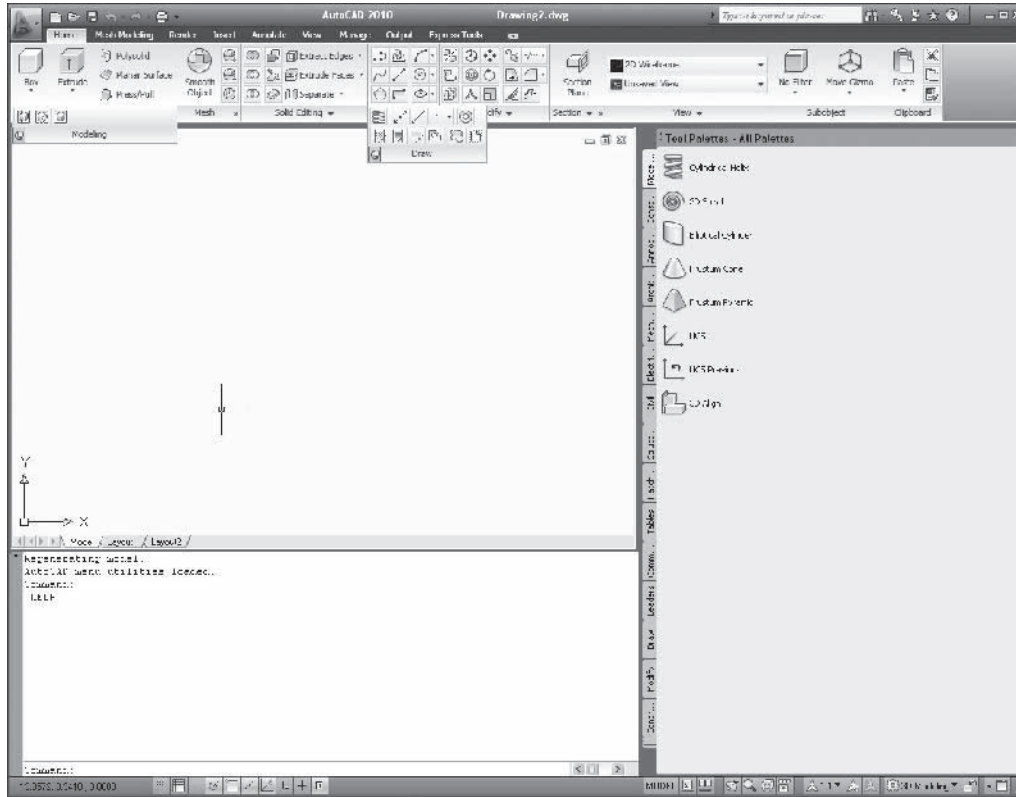

Fig. 3-10
1. Starting in the **3D Modeling** workspace, rearrange the AutoCAD window so that it is similar to the one in Fig. 3-10 on page 30.